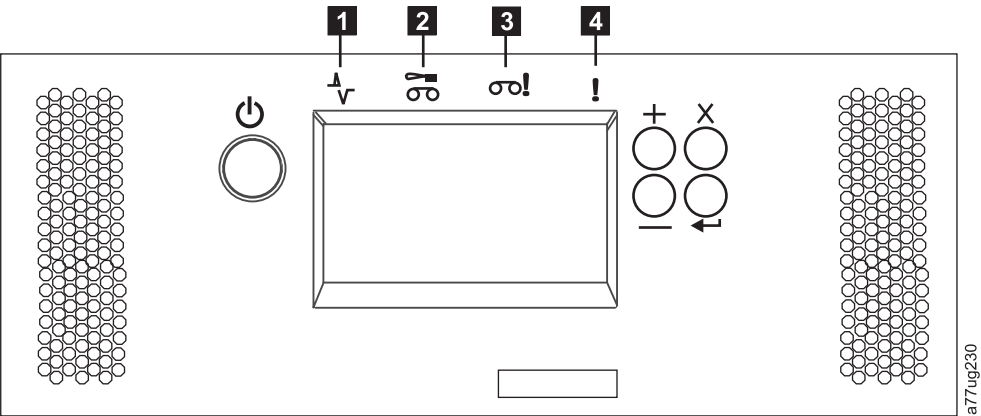

Figure 179. Library front panel LEDs
- 1) After power up, the Ready/Activity LED (**1** in Figure 179 on page 242) turns ON.
- 1) The Error LED (**4** in Figure 179 on page 242) turns ON.
- 1) The replacement library enclosure powers up with the Ready/Activity LED (**1** in Figure 179 on page 242) ON.
- 1) The Error LED (**4** in Figure 179 on page 242) turns ON. This action indicates that the library controller card from the defective library is not functioning properly.
- 1) The replacement library enclosure completes with the Ready/Activity LED (**1** in Figure 179 on page 242) ON.
- 1) The error LED (**4** in Figure 179 on page 242) turns ON.